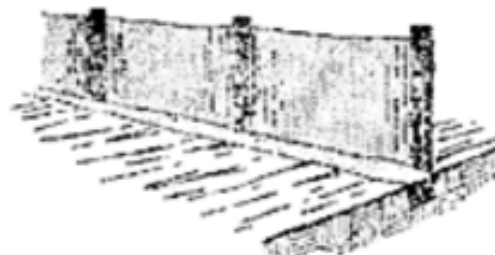

Figure 2: Constructing a silt fence to slow runoff and prevent erosion
- Control erosion during construction by using temporary methods such as diversions to carry water away from the construction site to where it can be safely dispersed or silt fences or hay bales to trap sediments before they enter the water; a combination of methods may be the best solution (see Figures 2 and 3).